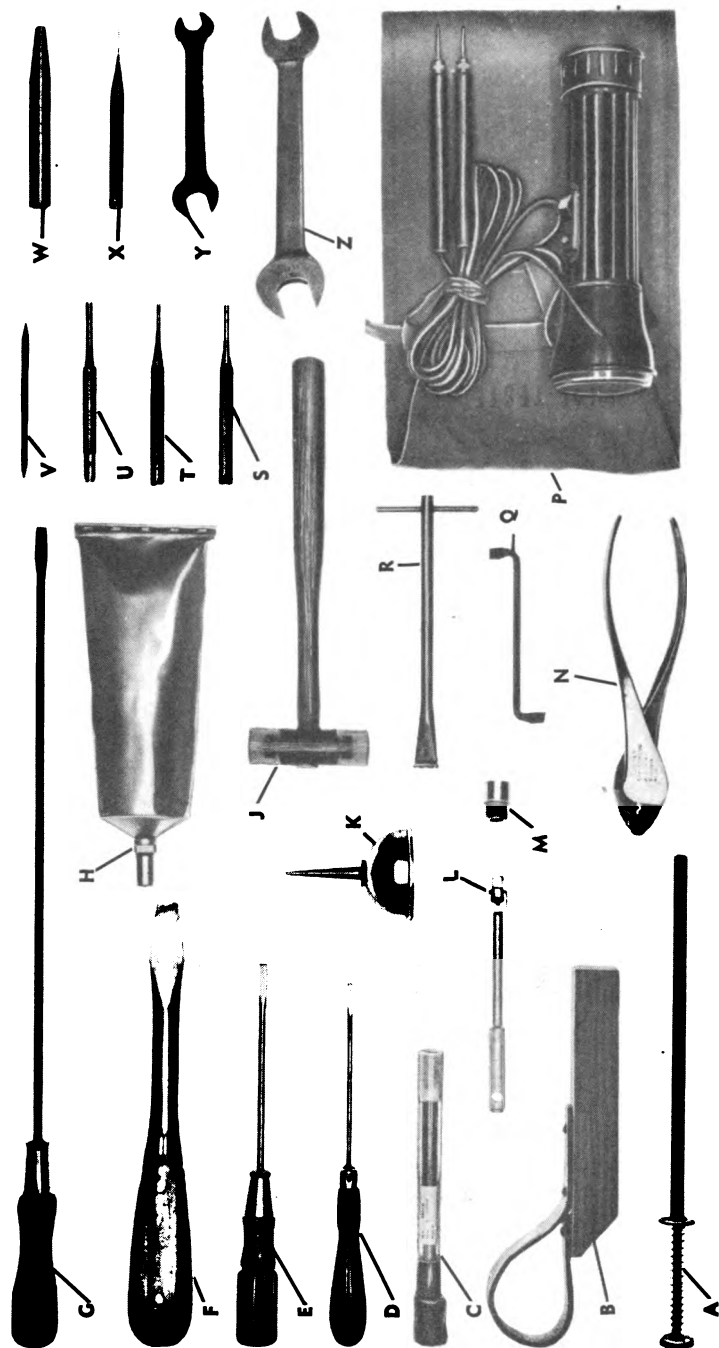

Figure 67 — Tools Carried in Tool and Accessory Chest (Director M5A1)
c. The tool and accessory chest, shown in figure 66, is issued with each four Directors M5A1. It carries both the tools shown in figure 67 and the following spare parts: 1 constant-speed motor assembly C78432, 1 transmitter assembly B175809, 1 Elbow Telescope M17, 2 cable and plug assemblies, 1 power switch, 1 light switch, 1 level
Legend for Figure 67 — Tools Carried in Tool and Accessory Chest (Director M5A1)